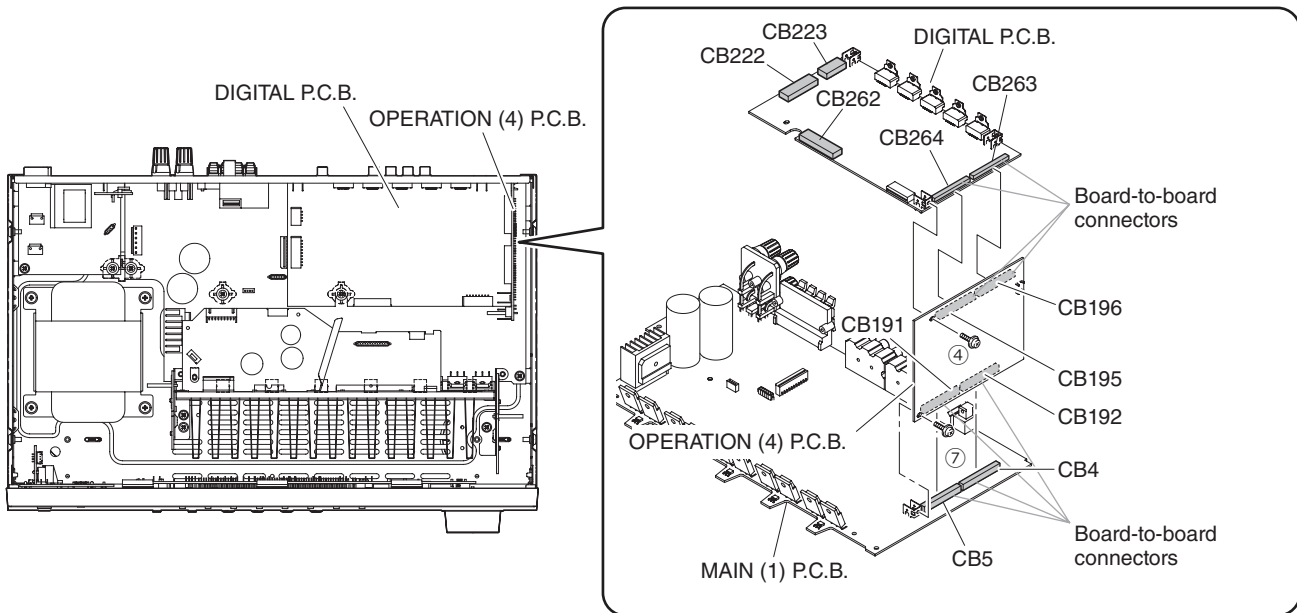

Fig. 2
- a. Remove CB222 and CB223. (Fig. 2)
- b. Unlock and remove CB262. (Fig. 2)
- c. Remove screw (④). (Fig. 2)
- e. Remove the DIGITAL P.C.B. which is connected directly to the OPERATION (4) P.C.B. with board-to-board connectors. (Fig. 2)
- a. Remove screw (⑦). (Fig. 2)
- c. Remove the OPERATION (4) P.C.B. which is connected directly to the MAIN (1) P.C.B. with board-to-board connectors. (Fig. 2)